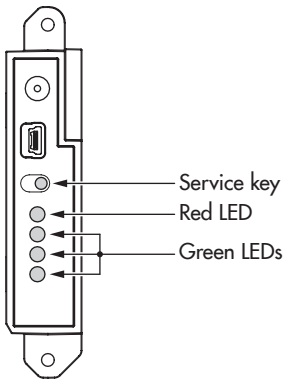

Fig. 8-1: Signal strength indication
1. Press the service key on the GSM module and hold for three seconds (see Fig. 8-1).